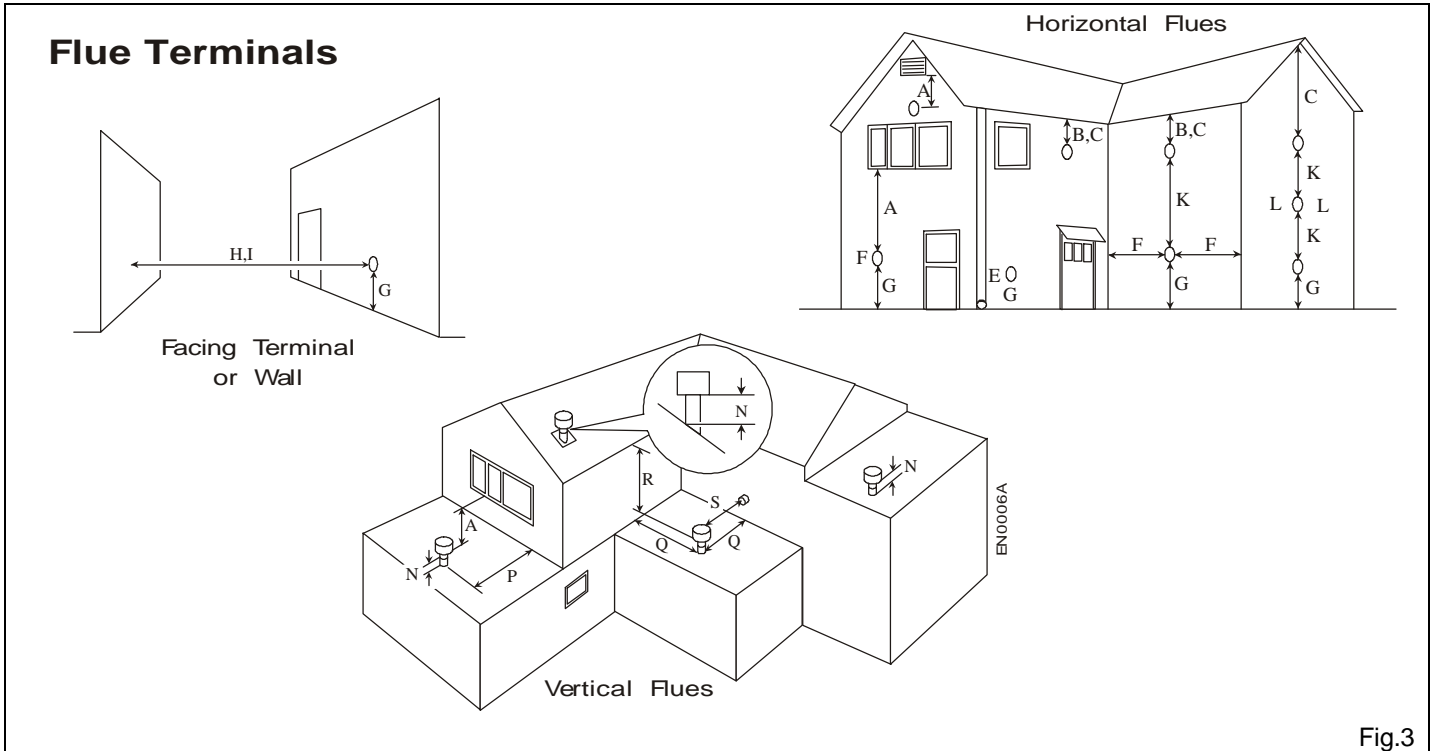

Fig.3
0.5 & 1 Metre Flue Extension kits (0.5m - Part No. 430092, 1m - Part No. 430085) are available to extend horizontal flues to a maximum length of 2920 mm and vertical flues to a maximum length of 3 metres. The siting positions for horizontal flue terminals are shown in Fig. 3.
The siting of the flue terminal through a roof is shown in Fig. 3.